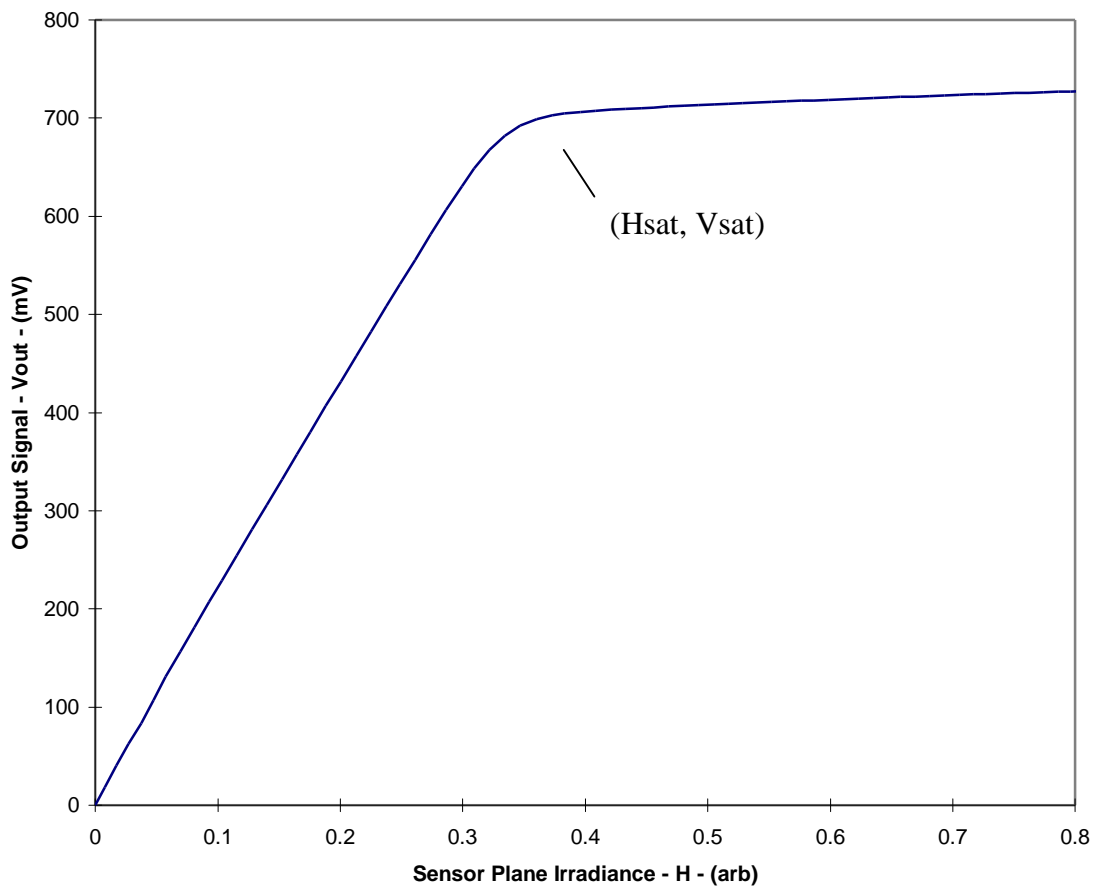

Figure 15 Typical KAI-0372 Series Photoresponse
- For a 100×100 pixel region under uniform illumination with output signal equal to 80% of saturation signal. Saturation signal, V_{sat} , is the output voltage at the knee of the output vs illumination curve as shown in Figure 15 – KAI-0372 Series Photoresponse
- This is the global variation in chip output across the entire chip measured at 80% saturation and is expressed as a percentage of the mean pixel value. Saturation signal, V_{sat} , is the output voltage at the knee of the output vs illumination curve as shown in Figure 15.
- For a 100×100 pixel region under uniform illumination with output signal equal to 80% of saturation signal. Saturation signal, V_{sat} , is the output voltage at the knee of the output vs illumination curve as shown in Figure 15, Typical KAI-0372 Series Photoresponse
- This is the global variation in chip output for green pixels across the entire chip measured at 80% saturation and is expressed as a percentage of the mean pixel value. Saturation signal, V_{sat} , is the output voltage at the knee of the output vs illumination curve as shown in Figure 15.